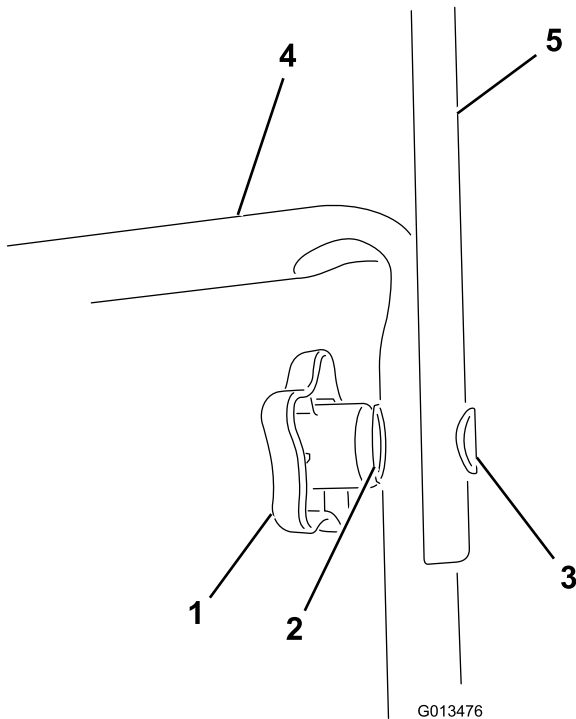

Figure 1
2. Install the upper handle to the lower handle of the machine with the handle knobs, curved washers, and oval bolts as shown in Figure 1.